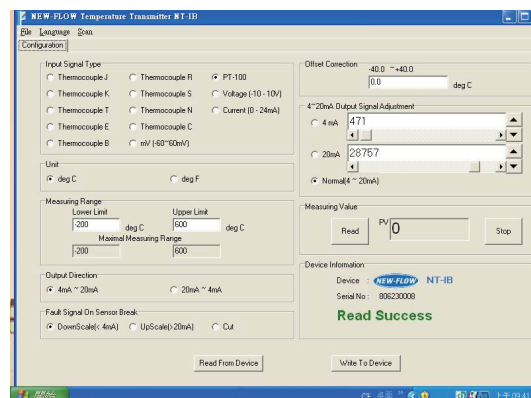

Figure 4. Configuration screen
Figure 4 show the configuration screen of **NEW-FLOW NT-IB**. The Configurable parameters are :
7. **4~20mA Output Signal Calibration** : Zero and Span adjustment of output signal. A power source shoule be connected as Figure 4.